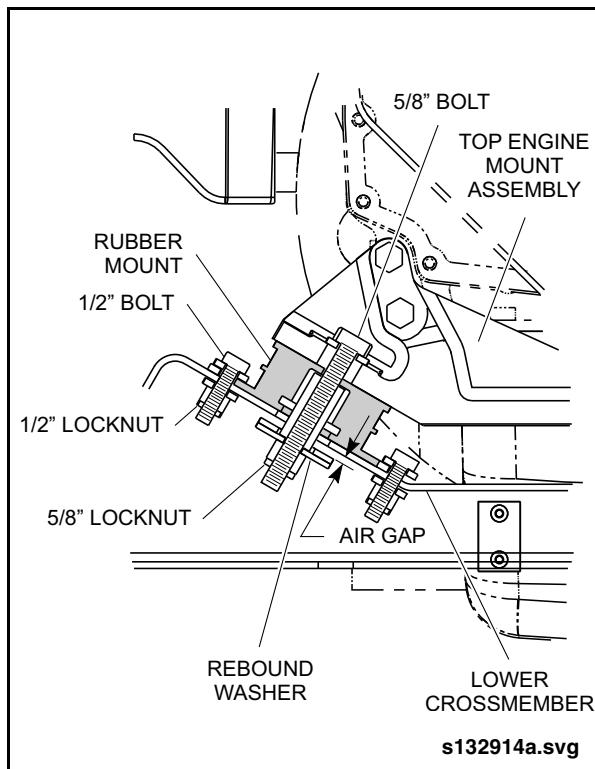

Fig. 4-11: Front Engine Mount Cross-Section
4. Install the 5/8" bolt, flat washer, spacer, engine rebound washer, and lock nut. See "Fig. 4-11: Front Engine Mount Cross-Section" on page 16.